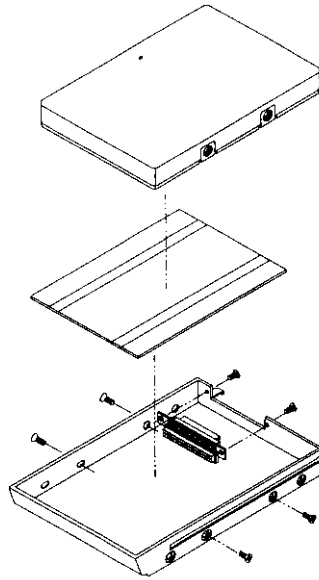

Figure 2-13
1. Remove the two screws on each side of the case. (Figure 2-13)